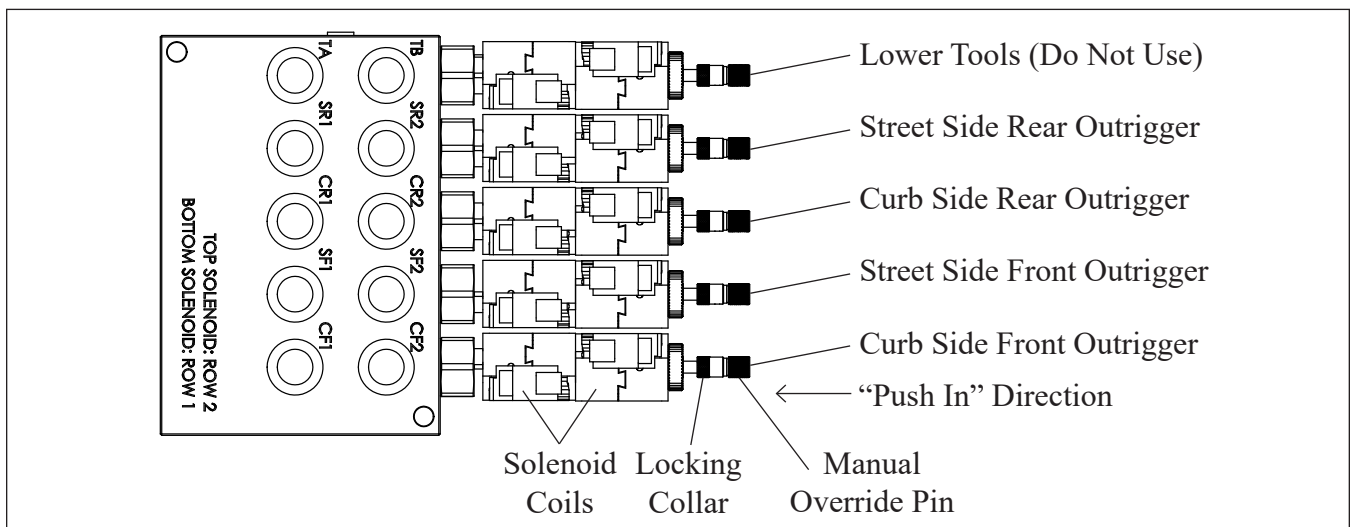

Figure 2 — Outrigger/Tool Valve Manual Override Pins
7. Locate the manual override pins at the ends of the solenoid coils (refer to Figure 2).